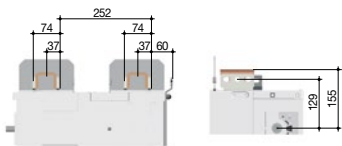

Fig. 1
- To allow connection between the two power terminals from a same pole for 2000 to 3200A ratings (Fig. 1 and Fig 2)